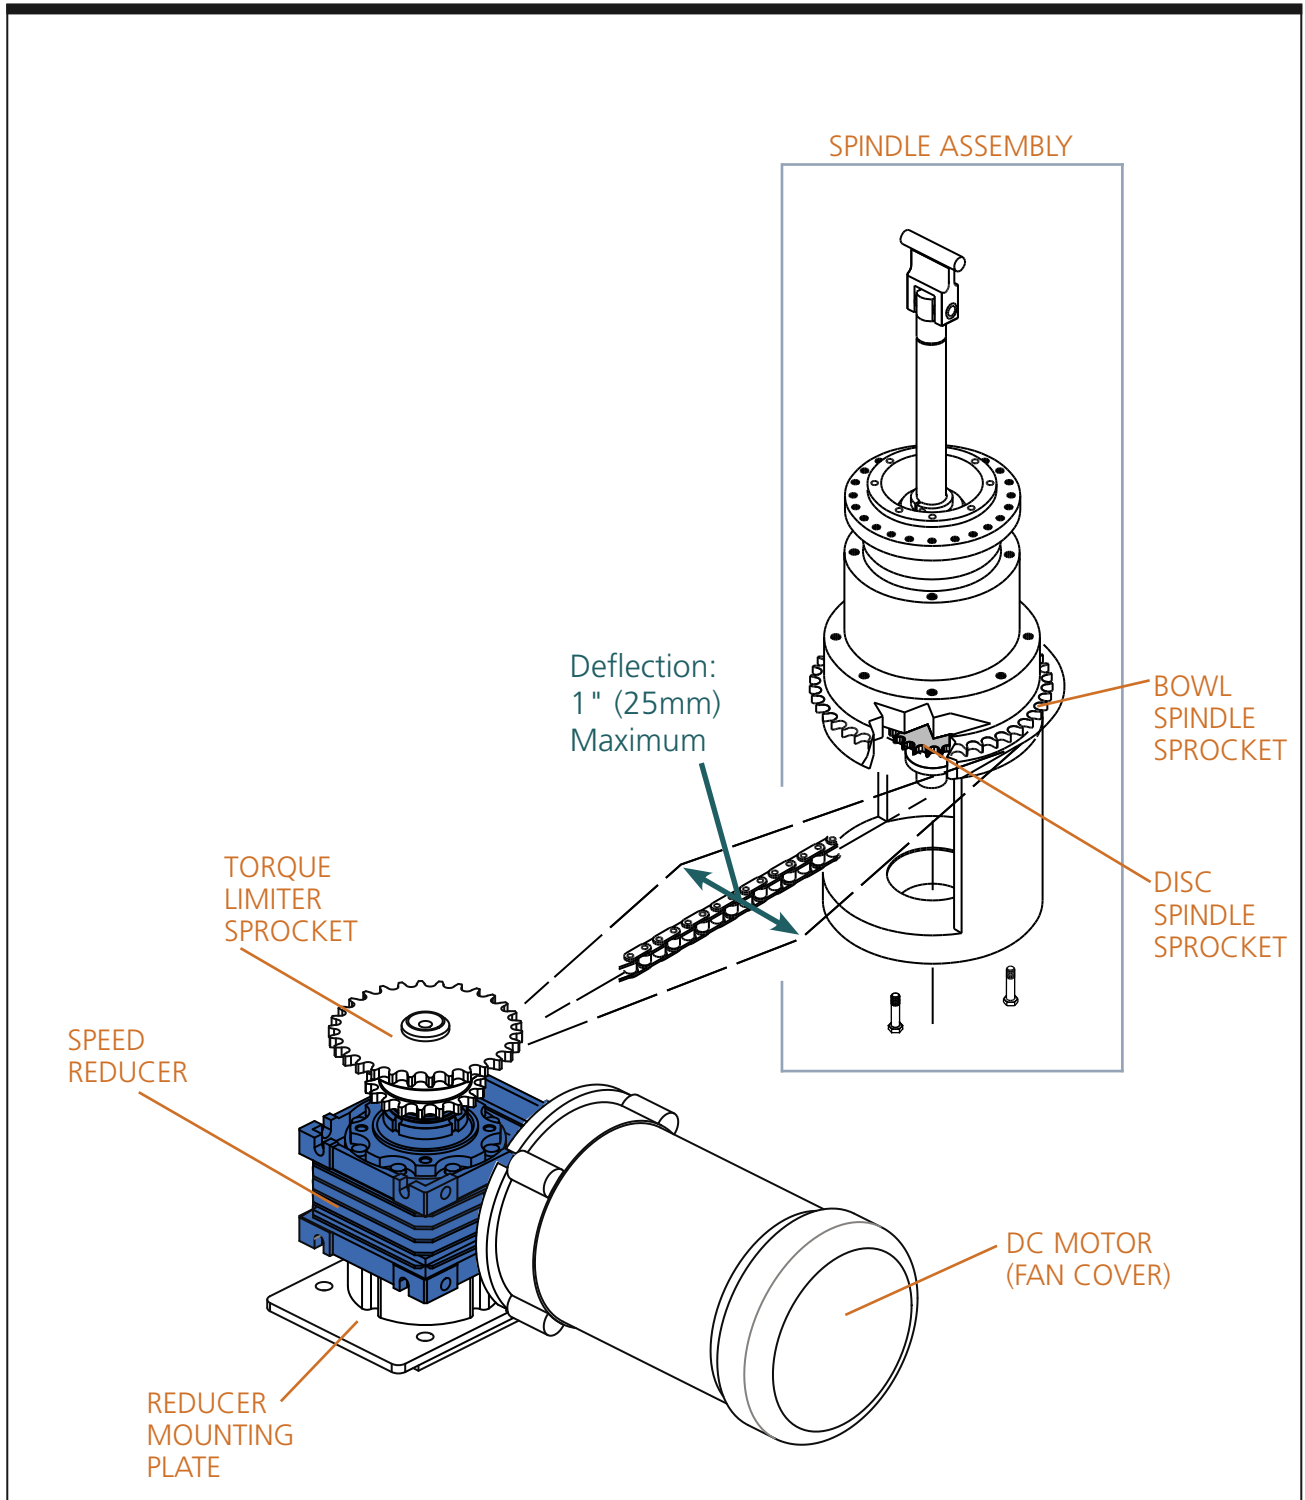

Figure 4-3. Bowl Drive Chain Tension - FT-20/30-RD DC Motor
**Step 2—Inspect Drive Chain.** Midway between the sprockets, grasp the chain and move it back and forth. You should not be able to move it more than 1" in either direction. If it moves more than 1", adjustment is required (see Figure 4-3.) If an adjustment is needed:
**Step 7—Replace Chain and Covers.** Install bowl drive chain. Inspect chain tension (refer to Figure 4-3). Replace covers and reconnect power and air.